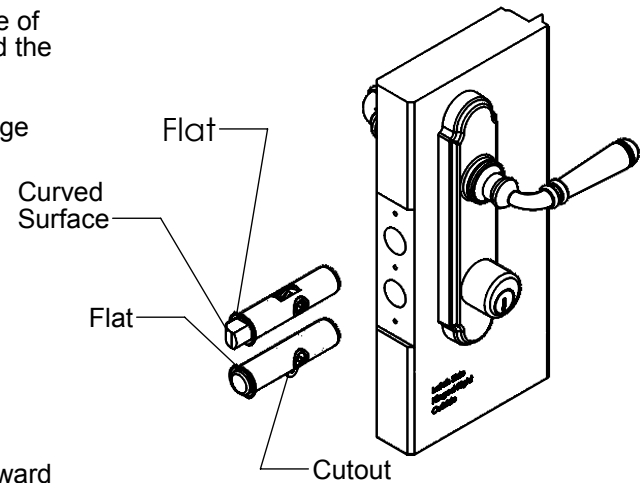

Figure 2
Step 2. Insert **LIVEBOLT ASSEMBLY** into upper 5/8" diameter hole in edge of door with the curved surface of the livebolt toward the inside of the door and the flat surfaces on the livebolt housing flange horizontal. See Figure 2.
Step 3. Insert **DEADBOLT ASSEMBLY** into lower 5/8" diameter hole in edge of door. Viewing the door from outside; if the hinges are on your right the cutout in the deadbolt housing must face down, if the hinges are on your left the cutout in the deadbolt housing must face up. The flat surfaces on the deadbolt housing flange must be horizontal. See Figure 2.